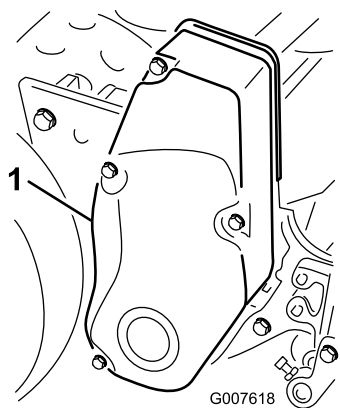

Figure 35
1. Remove the belt cover mounting fasteners and the belt cover to expose the belt (Figure 35).